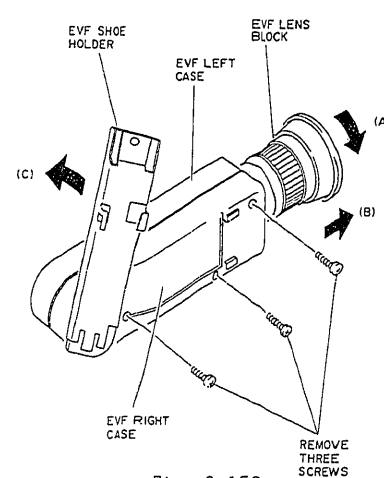
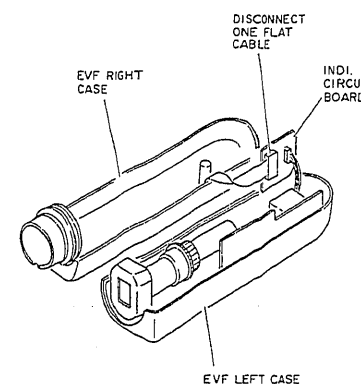

Fig. 2-152
Fig. 2-153
- 1) Turn the EVF lens block in the direction of arrow (A) and remove the EVF lens block in the direction of arrow (B). (See Fig. 2-152)
- 2) Turn the EVF shoe holder in the direction of arrow (C) and remove three (3) screws holding the EVF right case.
- 4) Disconnect one (1) flat cable (CN801) on the indi. circuit board. (See Fig. 2-153)